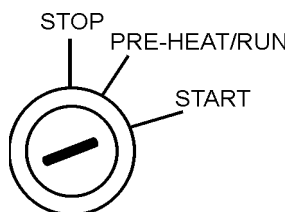

Figure 45. Ignition Switch (Start Position)
6. Turn the ignition key to the **START** position (Figure 45). Once the engine starts, release the ignition key and allow it to return to the **PRE-HEAT/RUN** position. If the engine fails to start after 10 seconds, wait approximately 30 seconds and repeat steps 1-8.